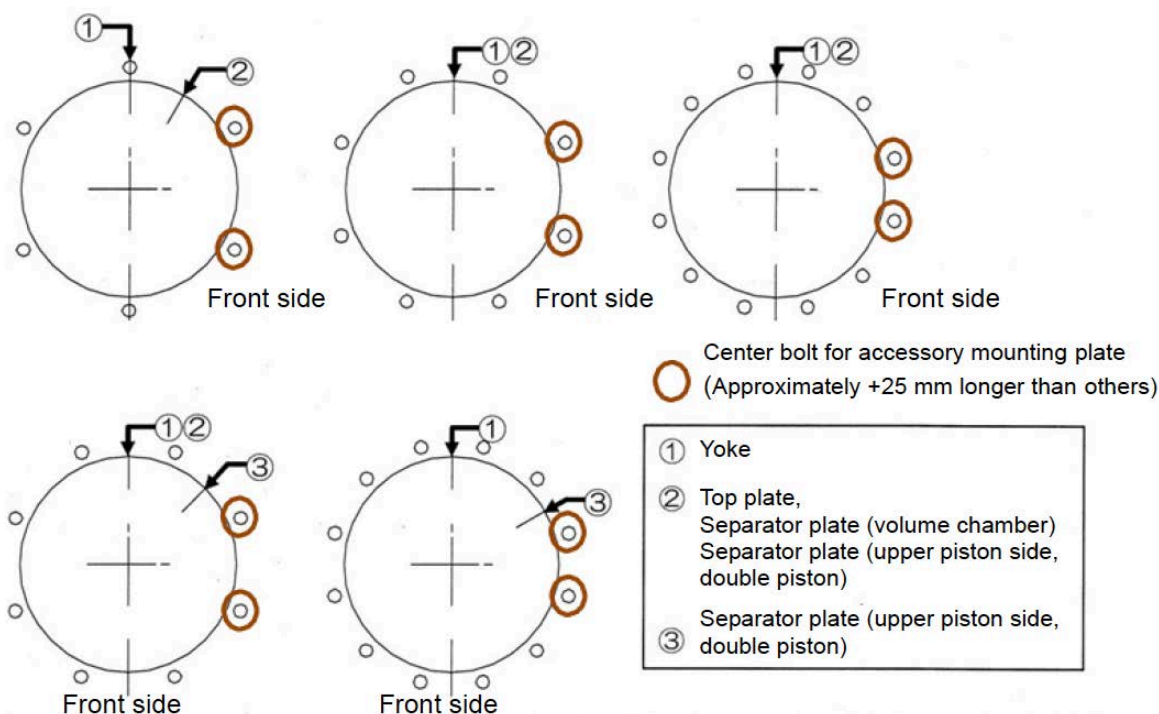

Figure 18 - Center bolt Positioning
15. Ensure the positions of the air connections are correct. Insert the center bolts into the holes of the top plate and yoke. Mount the spring washers and nuts and tighten them lightly by hand. Mount the spring washers and nuts to the bottom side of the yoke by hand. Ensure that the position of center bolts (approximately +25 mm longer than others) for the accessory mounting plate, if equipped, complies with Figure 18.